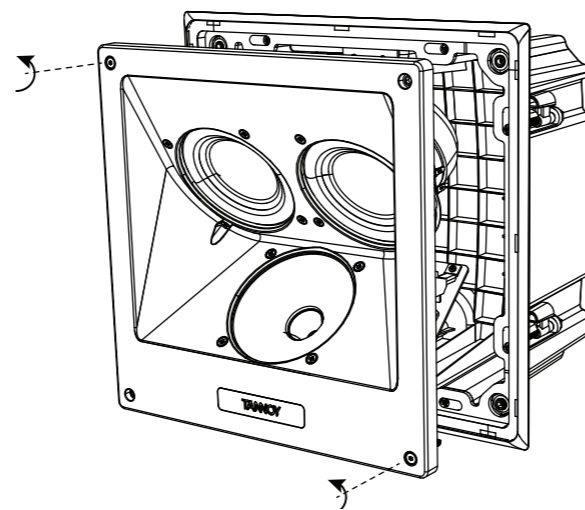

Fig. 14. Removing the loudspeaker from the back can
4. If the loudspeaker assembly is already fitted to the back can (during shipping for example) then remove it from the back can by undoing the screws holding it in place (Fig. 14).